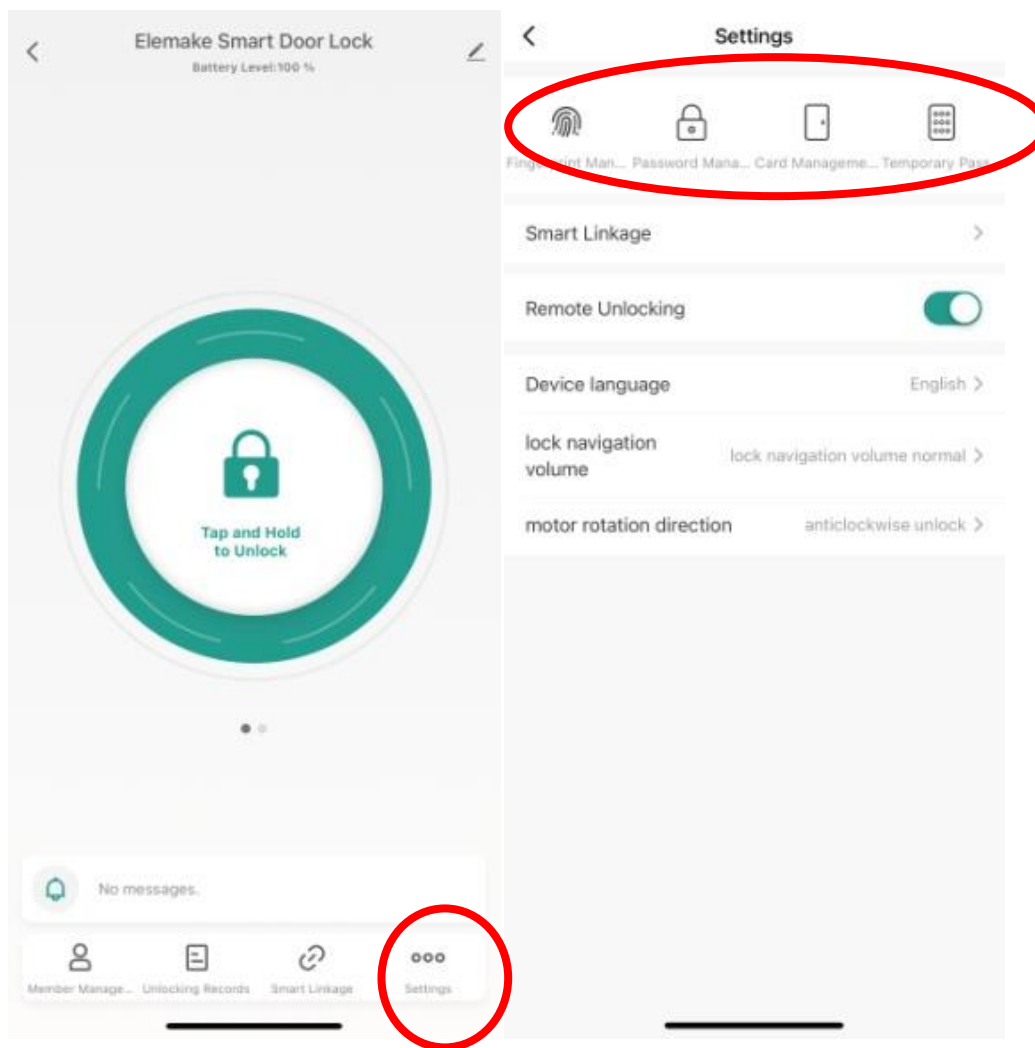

Figure M-1
(3) Step 3--Enroll the fingerprint/password/card for unlocking(See Figure M-1)